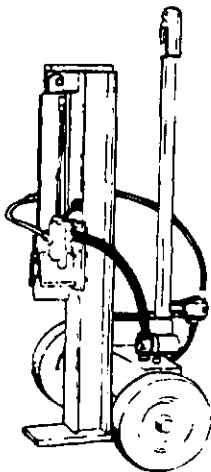

FIGURE 18.
- The tongue can be removed and reattached in an upright position as shown in figure 18 to take less space when storing.